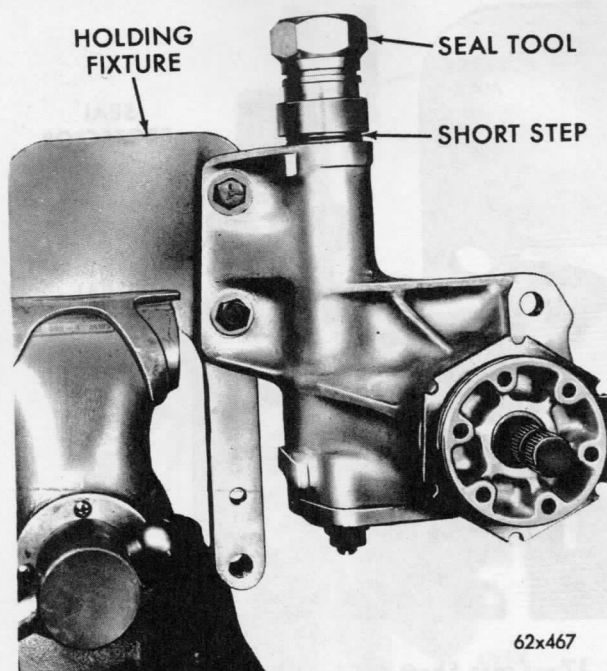

Fig. 18—Installing Cross Shaft Oil Seal (Tool C-3880)
(4) Place the installing adapter from C-3880 against the seal with the short step end toward the seal (Fig. 18).
(5) Place the nut down from Tool set C-3880 on the cross shaft, and turn it down against the adapter, pressing the seal into the housing until the step on the adapter contacts the end of the housing.